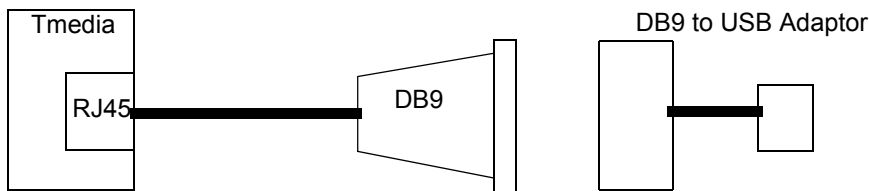

Figure 2.5 Conceptual View of a Serial Connection from the Tmedia unit to a Computer
2. If your computer’s serial port features a DB9 connector, use the DB9 to RJ45 adapter supplied with your Tmedia unit. If your computer's serial port features a USB connector, you will need to provide a USB to DB9 adaptor. Refer to figure 2.5 on page 14.